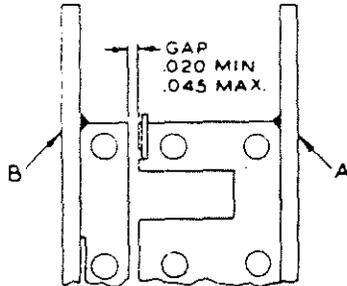

FIGURE 6
The motor brake requires an occasional check (approximately every six (6) months) on the gap between the magnet unit (A) and the pressure unit (B). (See figure 6). When installed in the hoist, this gap is set at .020". Tighten nuts on the ends of the studs only if gap has increased to .045". Never tighten to less than .020".